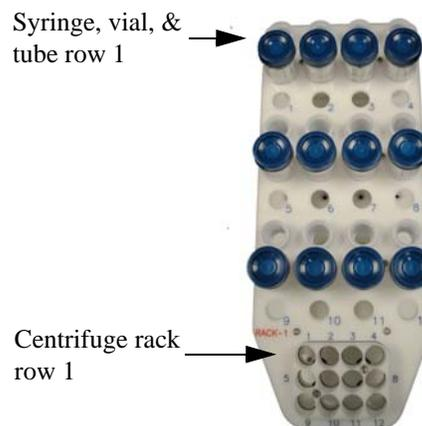

Figure 5 Loading the specimen rack
2. Insert the specimen vials to be processed into the specimen rack starting at vial row 1 (see *Figure 5*). Fill each row of 4 in order until the rack is full (12 vials), or until all of the vials to be processed are loaded. Make sure that the vials are fully seated in their circular wells. If processing fewer than three rows of vials, start loading vials at vial row 1.
- After the specimen rack has been processed (see **BD PrepMate operating instructions** below) carefully unload the rack. Place the tubes containing the cell suspension and density reagent into the centrifuge racks in the same order as they were in the BD PrepMate Automated Accessory. *Figures 5 and 7* illustrate the proper correspondence between the centrifuge racks and the BD PrepMate specimen rack.